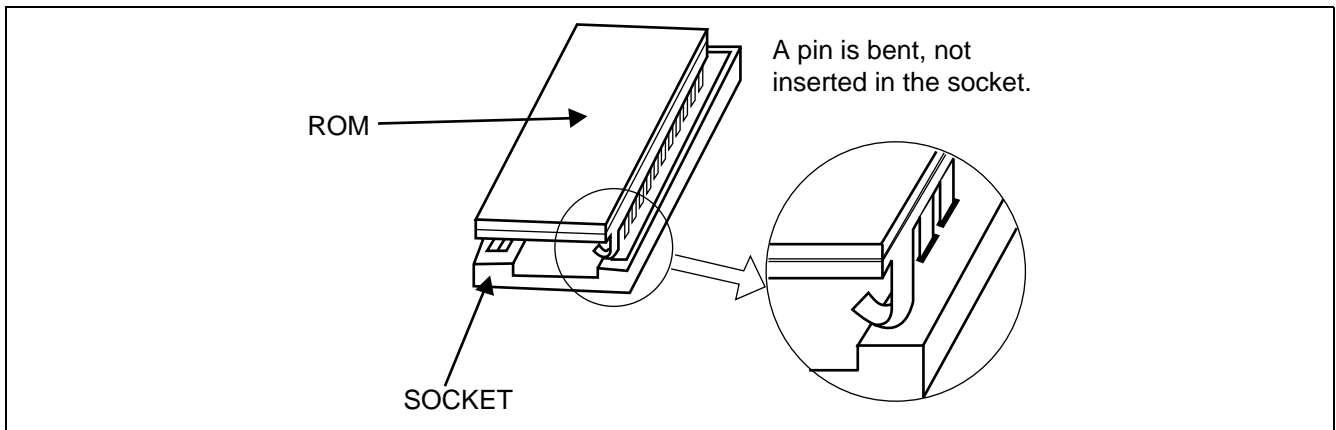

Figure 2-21 How to Set the ROM in IC Socket
- (3) When a circuit card appears to be faulty, check the following items before replacing it with a spare:
- (d) Check the ROMs to ensure proper seating in the IC socket. Figure 2-21 shows a leg that is bent and not set in the socket.